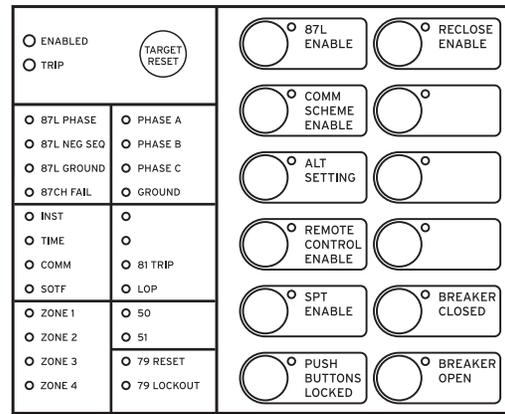
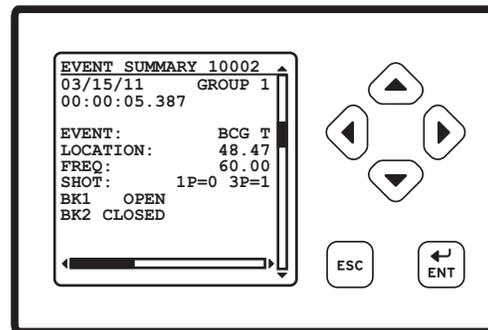

Figure 20 Factory-Default Status and Trip Target LEDs (12 Pushbutton, 24 Target LED Option)
Figure 21 Factory-Default Front-Panel Display and Pushbuttons
The LCD shows event, metering, setting, and relay self-test status information. The target LEDs display relay target information as shown in *Figure 20*.
The LCD is controlled by the navigation pushbuttons (*Figure 21*), automatic messages the relay generates, and user-programmed analog and digital display points. The rotating display scrolls through alarm points, display points, and metering screens. If none are active, the relay scrolls through displays of the fundamental and rms metering screens. Each display remains for a user-programmed time (1–15 s) before the display continues scrolling. Any message the relay generates because of an alarm condition takes precedence over the rotating display.
*Figure 20* and *Figure 21* show close-up views of the front panel of the SEL-411L-2. The front panel includes a 128 x 128 pixel, 3" x 3" LCD screen; LED target indicators; and pushbuttons with indicating LEDs for local control functions. The asserted and deasserted colors for the LEDs are programmable. Configure any of the direct-acting pushbuttons to navigate directly to any HMI menu item for fast viewing of events, alarm points, display points, or the SER.
The SEL-411L-2 includes programmable status and trip target LEDs, as well as programmable direct-action control pushbuttons on the front panel. Figure 20 shows these targets.